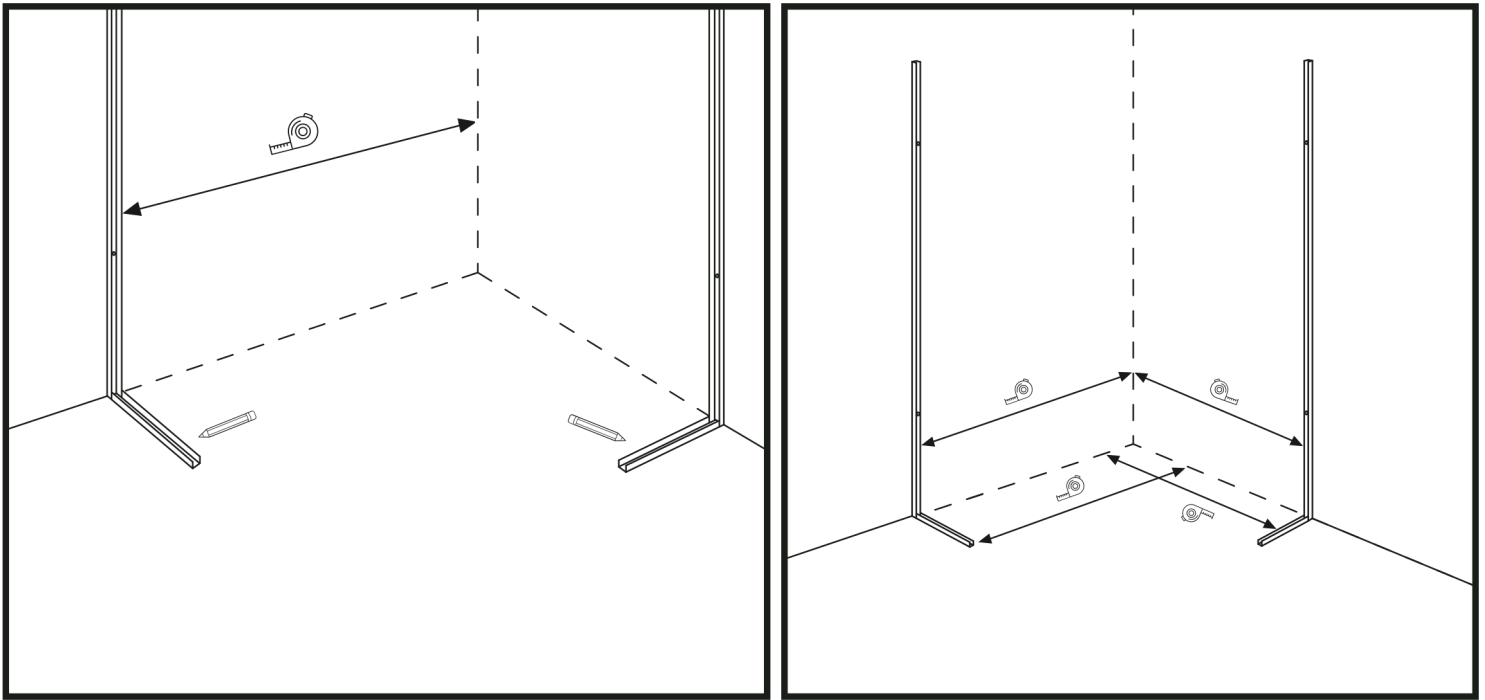

Figure 1
1. First install the fixed glass panels with the U-profile, i.e. the smaller glass parts of the shower enclosure, together with the telescopic tubes. (Figure 1)